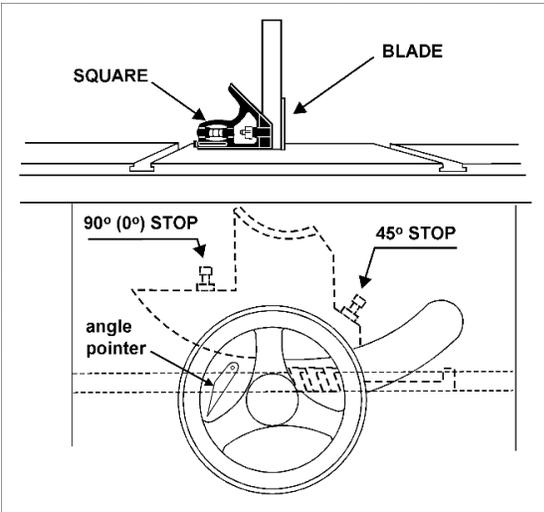

Figure 8-5: blade stops
5. If adjustment is required, loosen nut on 90° stop screw (Figure 8-5) with 13mm wrench, and turn screw to proper height. Verify setting and retighten nut against trunnion.
6. Check pointer position on scale (Figure 8-5). If needed, loosen screw, and adjust pointer to zero. Retighten screw.
Adjust 45° stop shown in Figure 8-5. Confirm setting, then retighten nut.